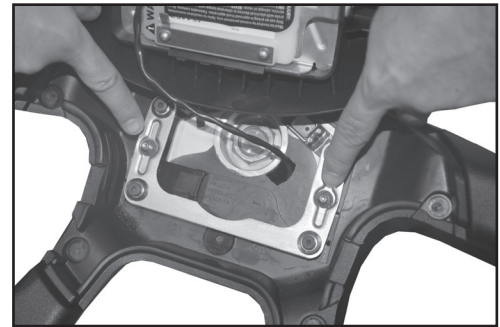

Figure 5
6. Place A/B module onto steering wheel and nest onto receiver U-Bar. The U-Bar is the "U" shaped flat metal plate on the steering wheel chassis. It will be supplied with two 1/4"-20 fasteners that are used to secure the A/B module to the steering wheel in the next step. **See Figure 5.**